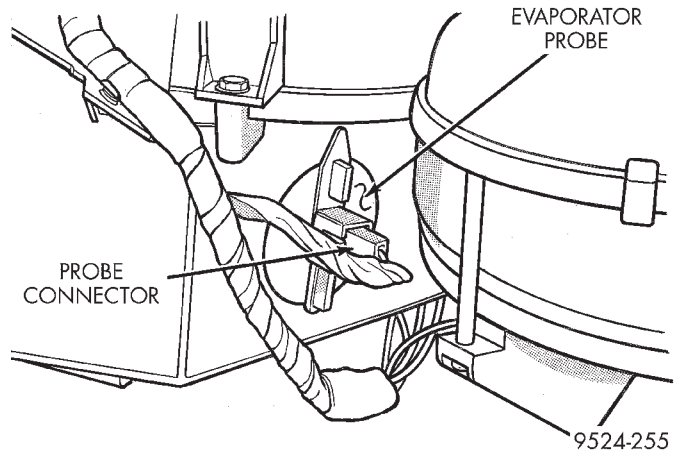

Fig. 41 Evaporator Probe Wiring
- (1) Disconnect battery.
- (2) Remove right under panel silencer/duct.
- (3) Disconnect wiring connector for evaporator probe (Fig. 41).